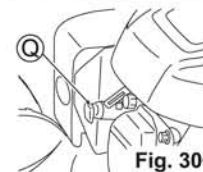

Fig. 30
1. Remove Plug cap (Q). (See Fig. 30)